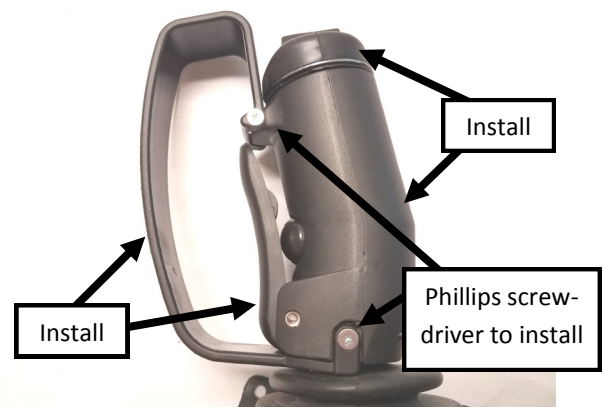

Figure 12
14. Install the back half and tighten the hardware until secure (see figure 12).
15. Install the trigger and tighten the screw until secure (see figure 12).
16. Install the steer rocker cover and secure with the split ring (see figure 12).
17. Position the trigger guard supplied in kit onto the joystick. Snap the bottom mounting holes into the recessed area on each side of the joystick (see figure 12).
18. Install the four screws supplied with kit and tighten until secure (see figure 12).